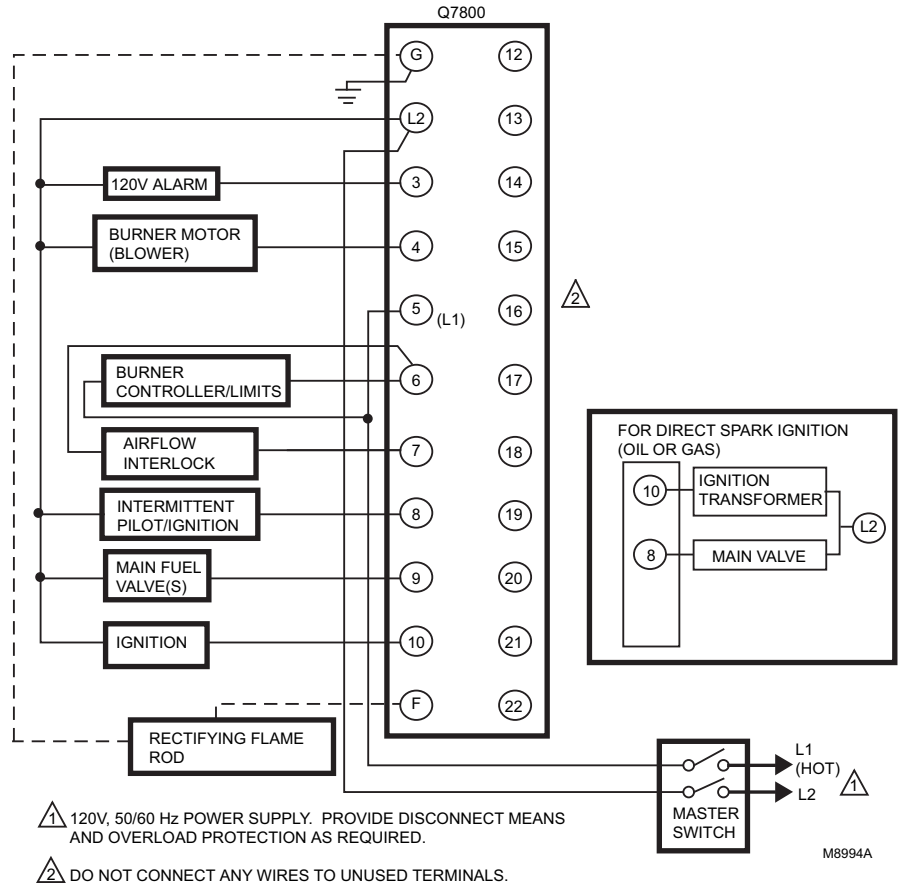

Fig. 7. Wiring the RM7895E,F Relay Module.
1. *Wiring connections for the relay modules are unique; refer to Fig. 7 and 8 or the correct Specifications for proper subbase wiring.*